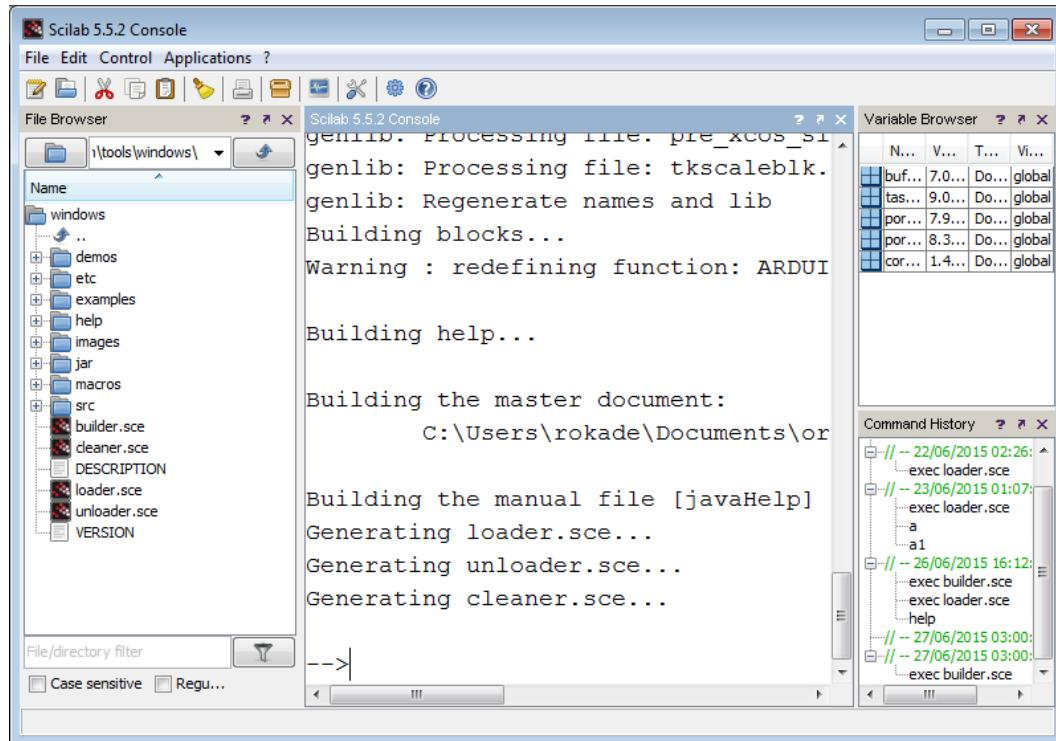

Figure 3.8: Output of builder.sce
4. After the previous step, the Scilab working directory becomes the toolbox folder. See the **file browser** panel on the left hand side of the Scilab console, see Fig. 3.8. It will list out the contents of your current working directory. For a check, look for the file **builder.sce**. If you see this file, then you are in the right directory.
5. Next, type the following command on the Scilab console: **exec builder.sce** - this will build the toolbox and create a file **loader.sce**. This step has to be executed only the first time. Output of this step is illustrated in Fig. 3.8.